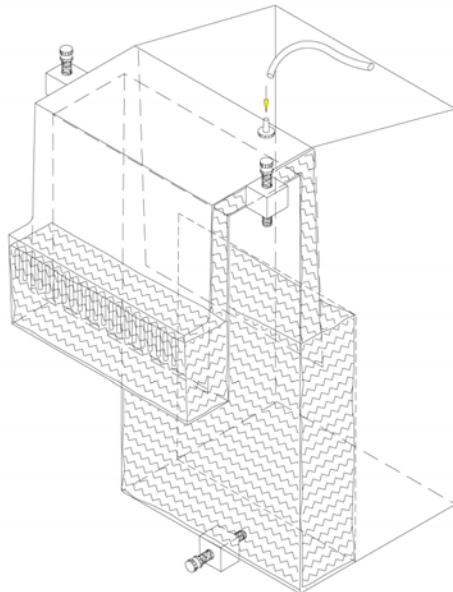

Fig. 3
9. Plug in the return pump. The flow rate of the return pump should closely match up with the overflow rating of your CS Overflow model. Issues may arise if the return pump flow rate is significantly different then the recommended overflow rating. Keep an eye on the water level in the tank after the pump is plugged in to make sure the overflow starts its siphon. Water should start draining down the overflow.(FIG 3) Look into the side of the overflow box for any air pockets accumulating at the top. At this point, direct your attention to the sump to make sure the return pump is still completely submerged, or that the sump is not overflowing. It may be necessary to add or remove water from the sump at this point. Continue to monitor both the tank and the sump for a few minutes to ensure that the system is working consistently.